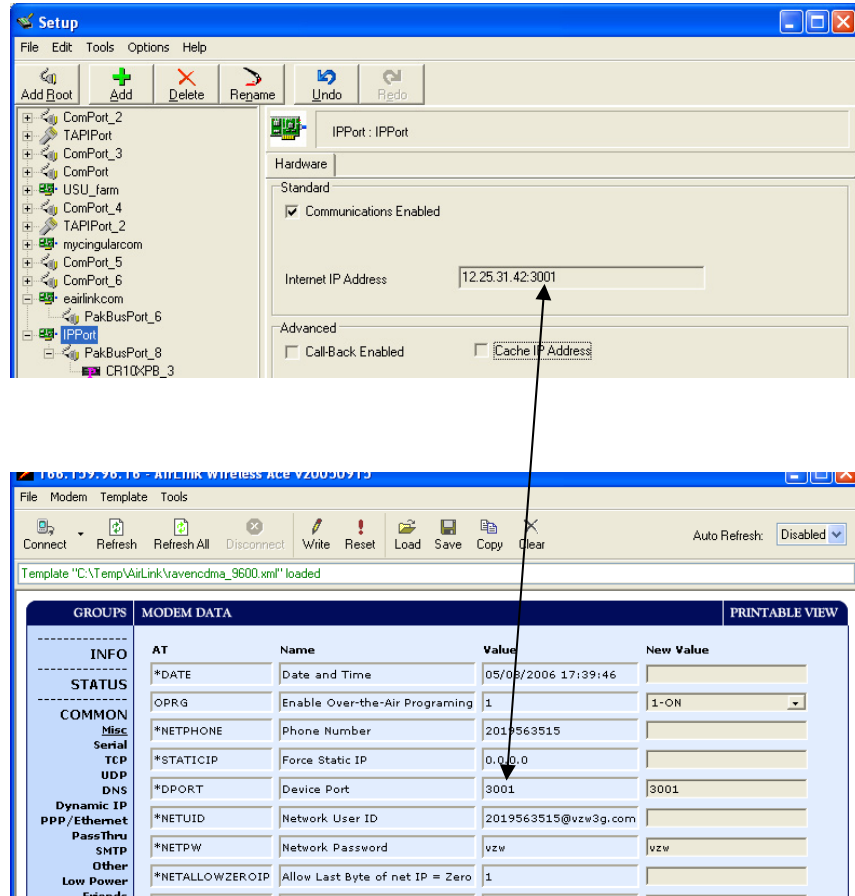

FIGURE 7.3-1. Device Port Configuration
- a. Make sure the port number at the end of the IP address matches the port number of the Raven (e.g. 3001, see Figure 7.3-1).